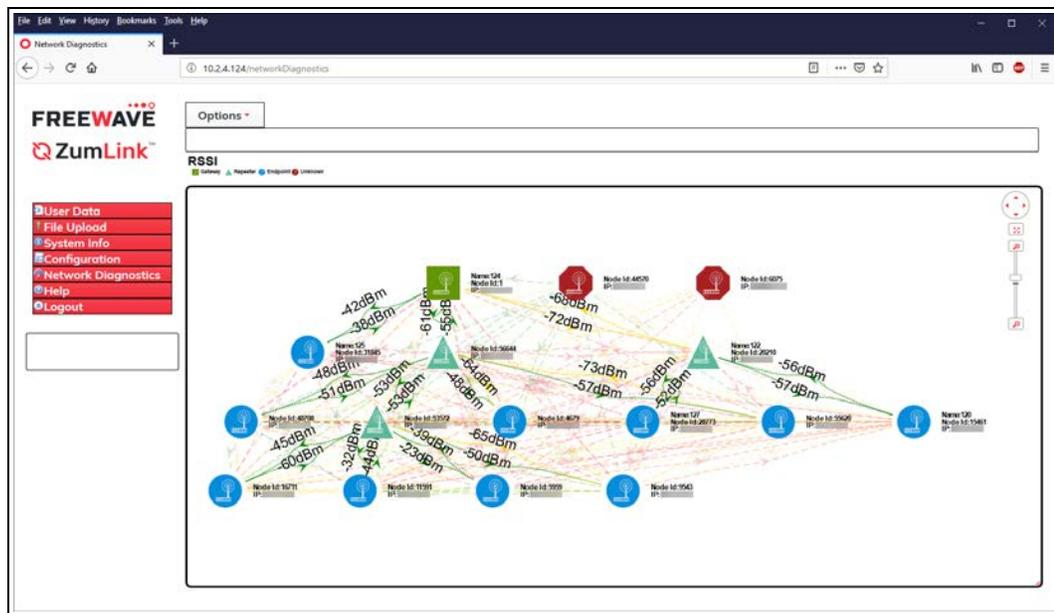

Figure 210: Network Diagnostics window - RSSI with Neighbors
- Click the **Options** list box arrow and select the **RSSI with Neighbors** option to show the **RSSI with Neighbors** connections in the **Network Diagram**. Figure 210